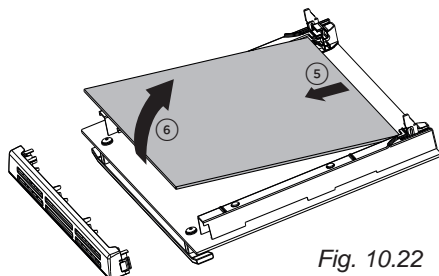

Fig. 10.22
- Gently lift and pull out the middle pane of glass by releasing it from the bottom retaining notches (fig. 10.22).